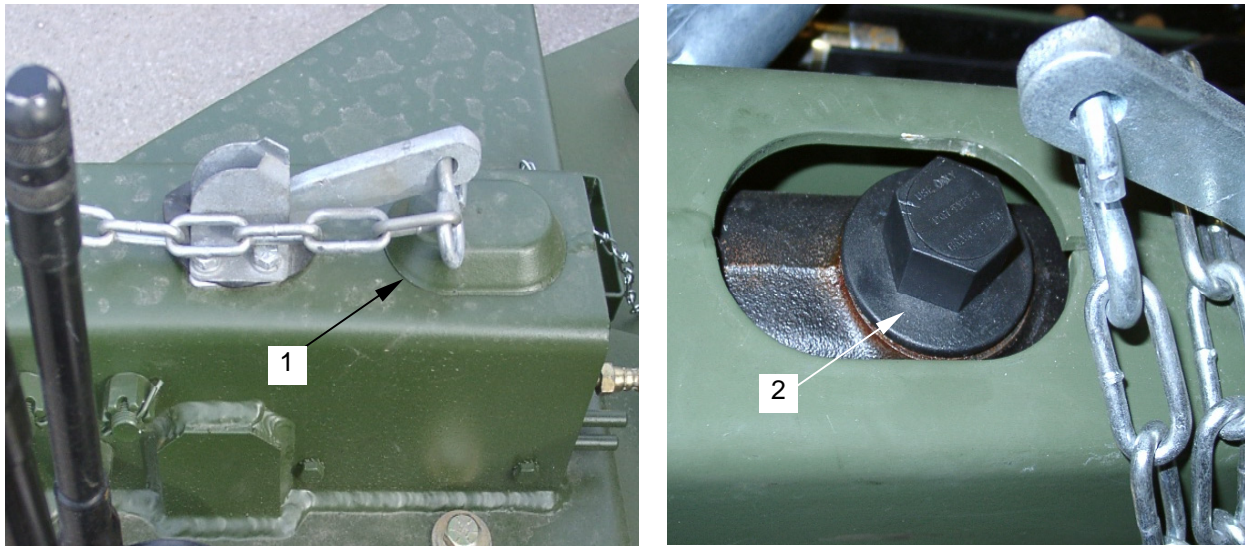

Figure 4. Master Cylinder
1. Remove the cylinder cover (**figure 4, item 1**), and master cylinder cap (**figure 4, item 2**) and fill the reservoir to three-quarters full with DOT-3 or DOT-4 brake fluid.